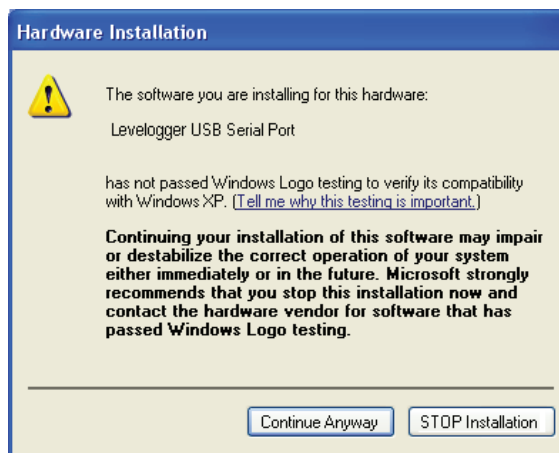

Figure 4-5 Hardware Installation Window
- 5) A warning message will then prompt that the software has not passed the Windows Logo Test. Select 'Continue Anyway' (Figure 4-5). This will complete the installation process. A system restart may be required. Repeat the steps if the installation fails the first time.